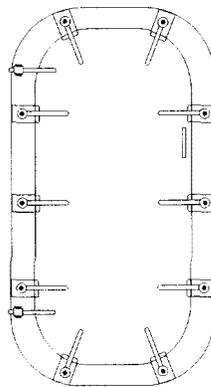

Figure 1-16. Glass-Reinforced Plastic Individually Dogged Watertight Door
- q. Glass-Reinforced Plastic Individually Dogged Watertight Doors. (See figure 1-16.) These GRP doors must meet all the requirements of a standard dogged watertight door. These doors are used primarily for mine-sweeping class ships to reduce magnetic signature.